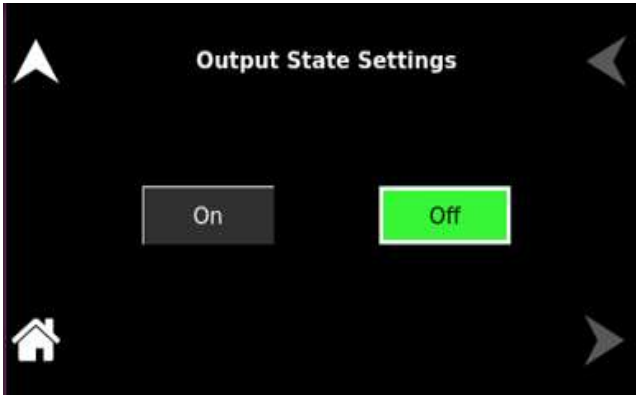

Figure 8-32. Output State
**Output State** User can program the output to ON or OFF state. Refer to Figure 8-32.